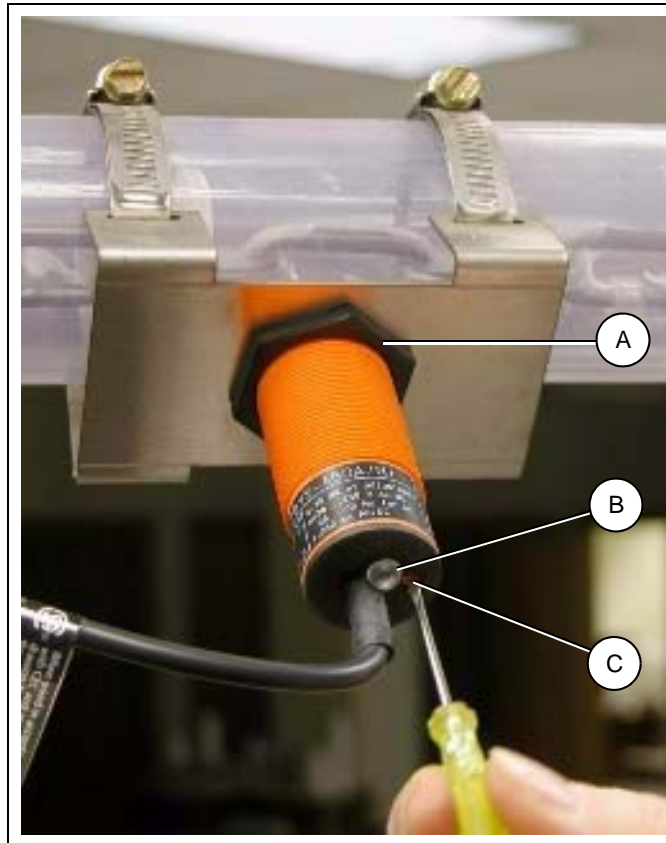

Figure 13L
3. The proximity switch must touch the clear tube. Adjust the top plastic nut until the top of the switch is touching the tube. Adjust the bottom plastic nut to secure into place. (See Figure 13L on Page 48.)
3. If the light is ON when the tube is empty, the switch is too sensitive. You must reduce the sensing distance by turning the sensitivity adjustment screw counterclockwise. To increase the sensing distance adjust the screw clockwise. (See Figure 13L.)